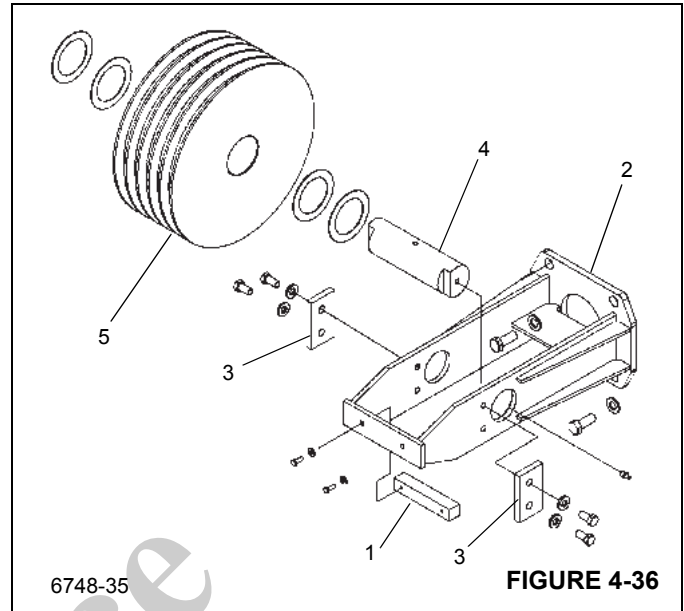

FIGURE 4-36
4. Apply a light coat of lubricant to the sheave shaft (Figure 4-36, 4).
5. Install the sheave assembly (Figure 4-36, 5), shaft (Figure 4-36, 4) and spacers. Install the shaft with the lubrication fitting to the LEFT and the notches to the Front of the boom.
6. Install the sheave shaft retainer plates (Figure 4-36, 3) on the left and right side with 2 capscrews and 2 washers in each plate.